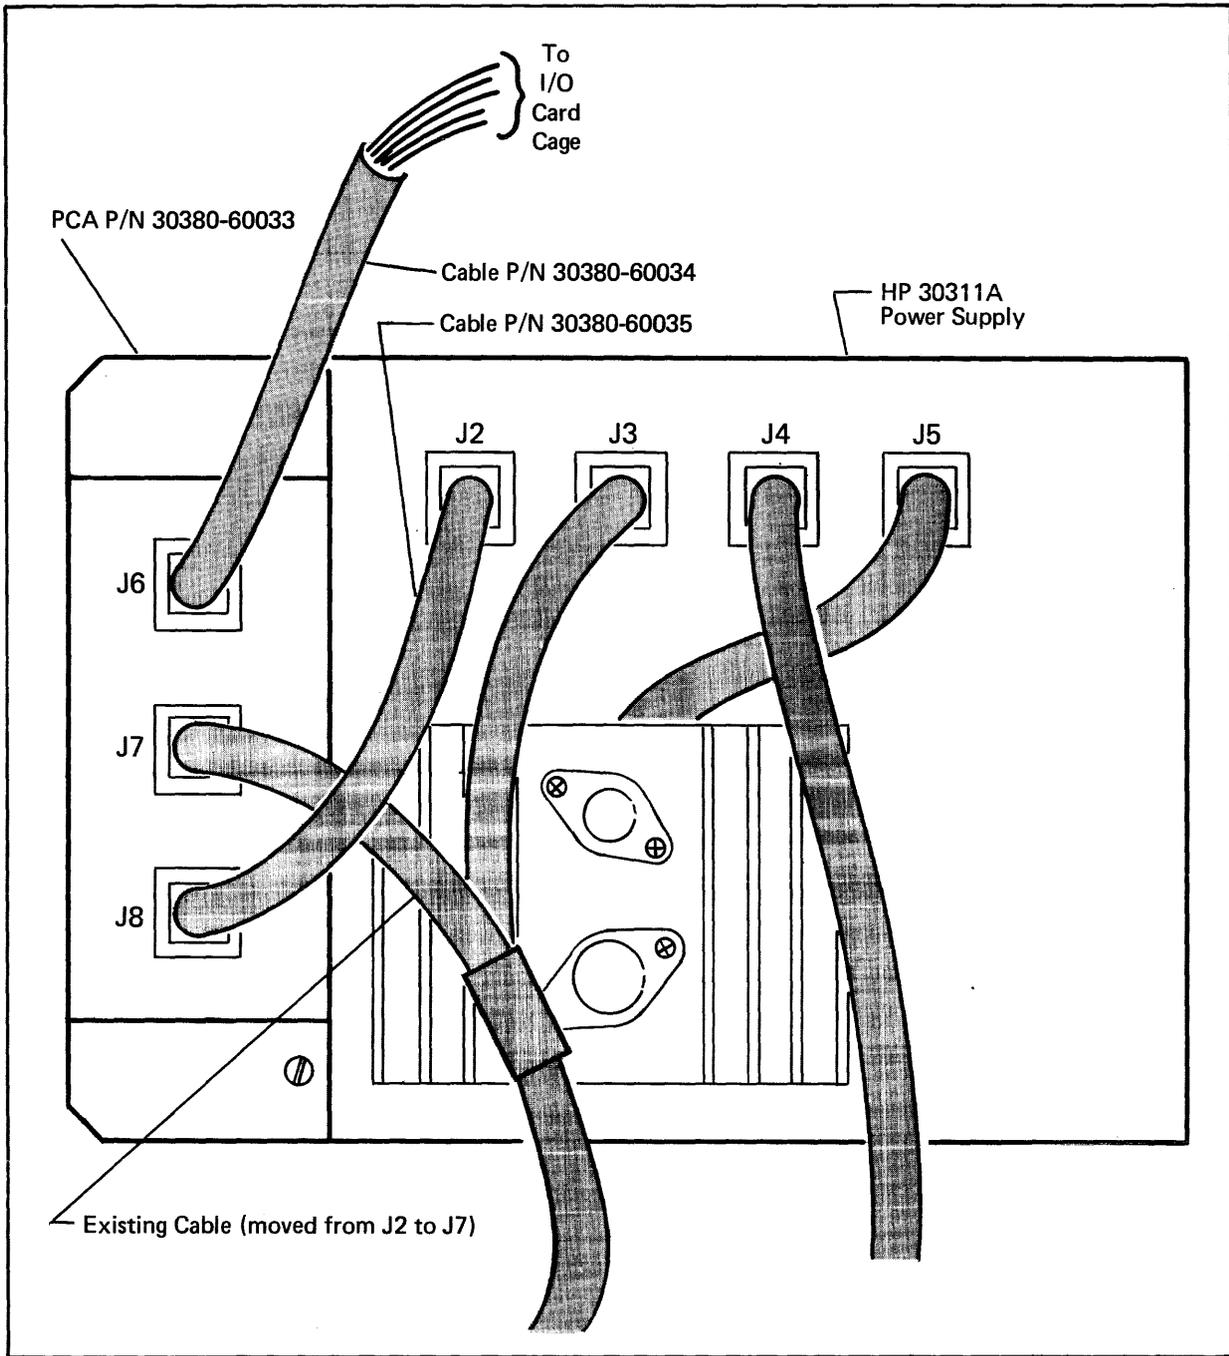

Figure 2-5. Memory Power Modification
- c. Remove the two screws on the left upper and lower corners of the power supply. Mount the Memory Power Jumper PCA board (part no. 30380-60033) on the left edge of the power supply, using the two longer screws, two flat washers, and two lock-washers supplied with the jumper board. (Refer to figure 2-5.)